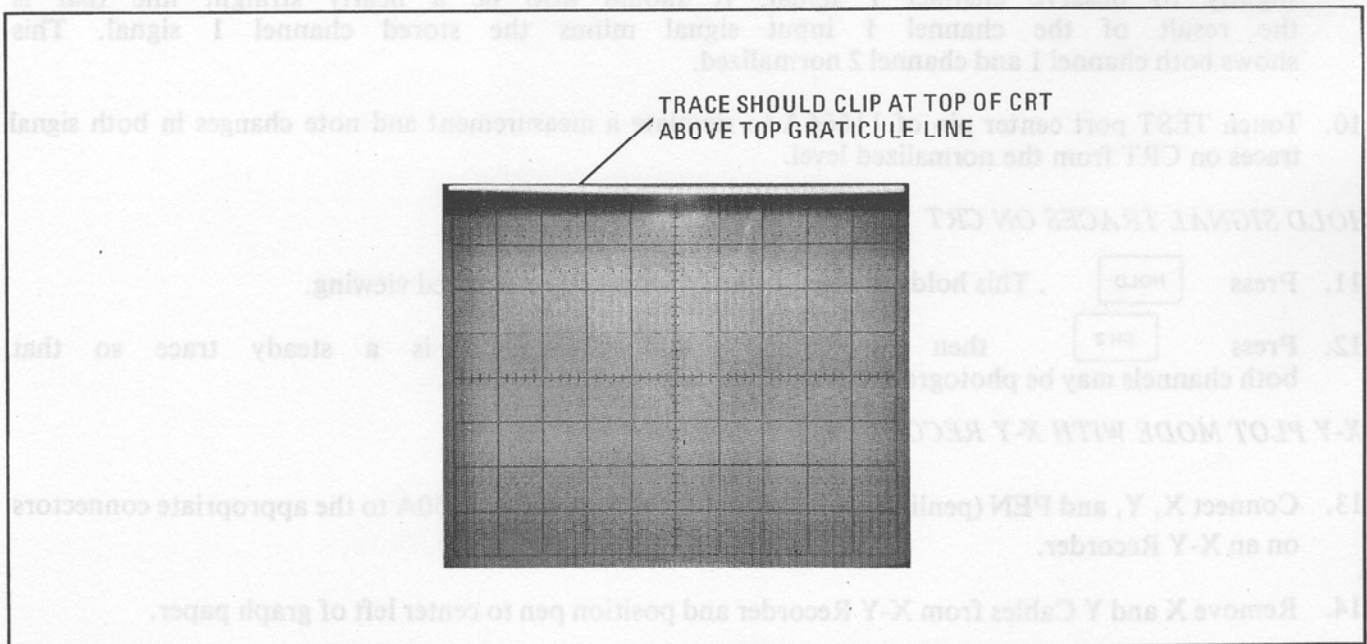

Figure 3-8. Vertical Display Adjustment
9. On 8750A, press  then  . The trace should be a horizontal line. Adjust front-panel VERT POSN (vertical position) control to place the trace on the center graticule line. Press  then move the trace well off the top of CRT with 8755B Channel 1 VERNIER. On 8750A, press  , then adjust 8750A front-panel VERT GAIN so the display limits approximately 1/8 inch above the top graticule line. (See Figure 3-8.)